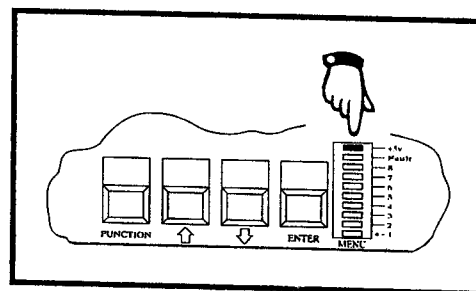

Figure 2-8
- (f) Turn **ON** the Mains ON/OFF switch. Check to see that the **+5v** indicator LED illuminates **ON** the **Menu Display** located on the CPU card as shown in Figure 2-8.